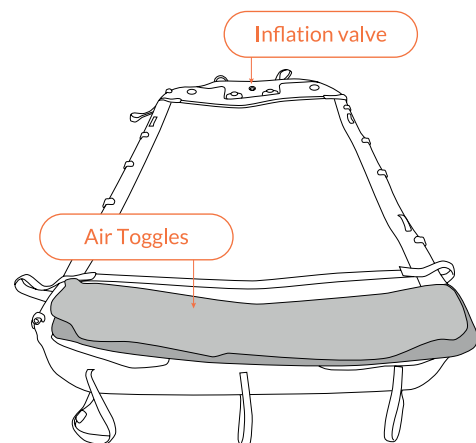

Fig 32 – Two deflated Air Toggles placed over MPMs
10. Lay the two deflated Air Toggles across the Platform at the **opposite end to the inflation valve**. This is important so any excess air can be pushed out as you roll the Platform (Fig 32). Position the Air Toggles so they are laid over the multi-purpose Platform mounts (MPM's), by doing this you protect the foam from any marks or dents.